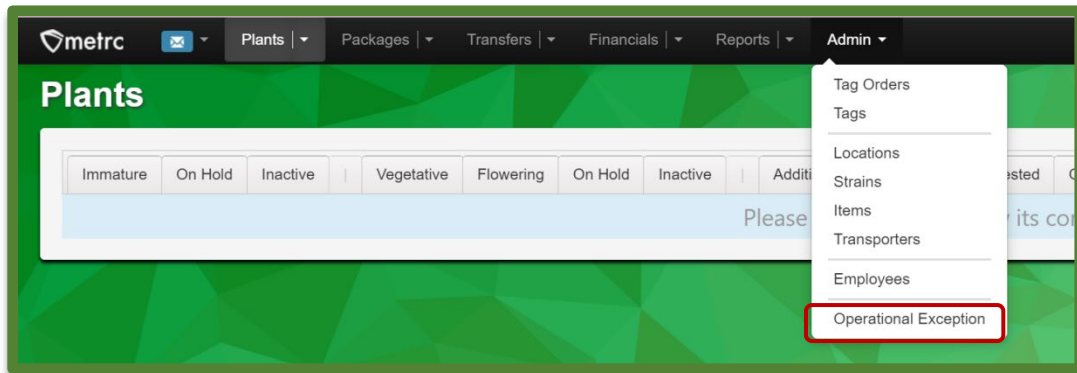

Figure 6: Operational Exception option
2. Once the permission has been granted and declaration of Operational Exception is needed, go to the Admin area and select the Operational Exception option as shown in **Figure 6**.